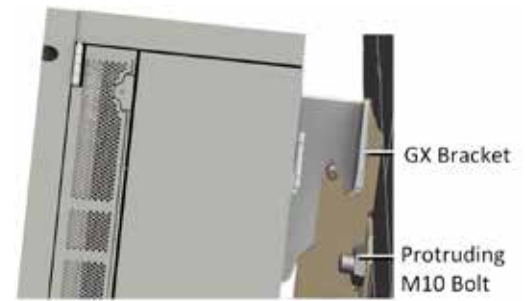

Figure 7. Hanging GX on Bracket
- Step 1.** Referring to Figure 7, carefully fit and hang the GX unit onto the bracket with the connectors facing down.